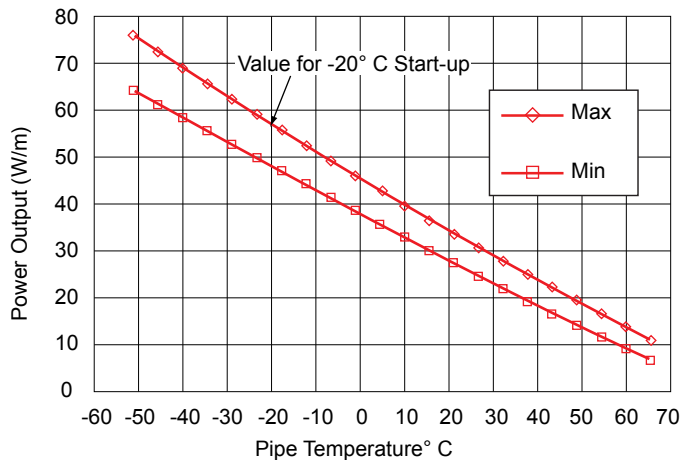

Fig. 10: Max/Min Power Output as a Function of Pipe Temperature
This is the steady-state current for the S/R cable at the specified start-up temperature at the top or maximum end of the manufacturing power output tolerance. Refer to the top line indicated as Max in Figure 10 for an example.
Step 3 - For a start-up at -20°C the maximum power output of the S/R 10-2 heating cable is 57 W/m. At 240 Vac the corresponding maximum current is 0.24 A/m. Refer to Fig. 10.